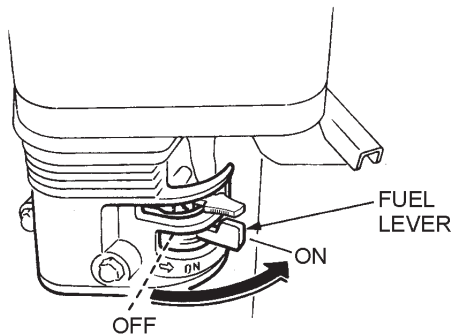

Figure 7. Engine Fuel Valve Lever (ON Position)
1. Place the engine fuel valve lever (Figure 7) to the “ON” position.